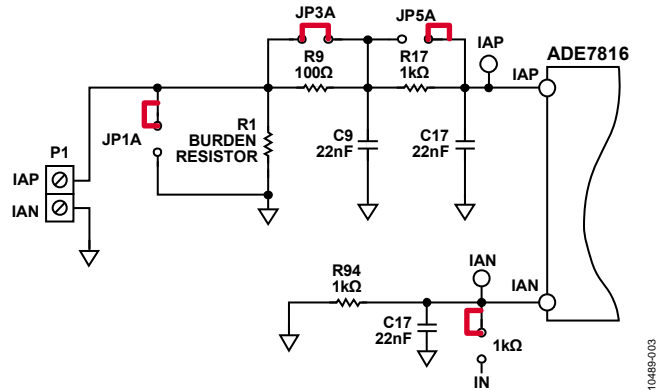

Figure 3. Typical Current Channel A Configuration with a CT
The **ADE7816** includes six, single-ended current channels that can be interfaced with either a current transformer (CT) or Rogowski coil. Apply the sensor output for Current Channel A to P1. Similar to the voltage channel, all current inputs have a maximum input of 0.5 V peak. Figure 3 shows a typical configuration for Current Channel A when a CT is being used.